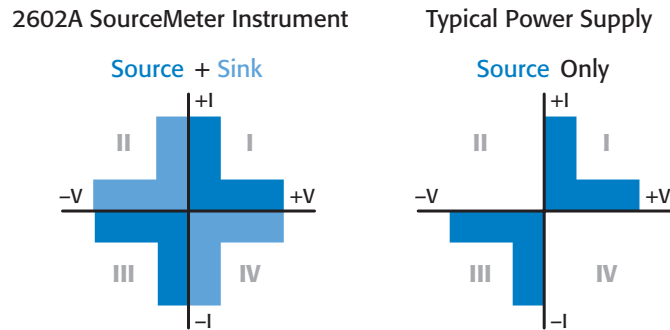

Figure 2. A power supply (right) offers only two-quadrant operation; an SMU instrument (left) can source and sink power in all four quadrants.
- *Four-quadrant rather than two-quadrant operation:* As illustrated in Figure 2, a typical power supply can only source voltage and/or current. In other words, it provides only two-quadrant operation (in quadrants I and III), but an SMU can provide full four-quadrant operation because it's capable of sourcing and sinking power, acting as both power supply and an electronic load. During source or sink operation, the SMU can simultaneously measure voltage, current, and resistance. This operating flexibility can be especially valuable when characterizing batteries, solar cells, or other energy-generating devices.